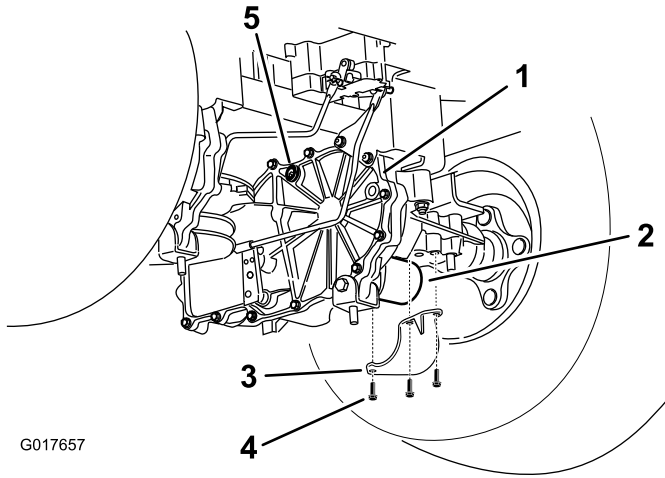

Figure 46
4. Locate the filter and filter guards on each transaxle drive system (Figure 46). Remove three screws securing the filter guard and guard.